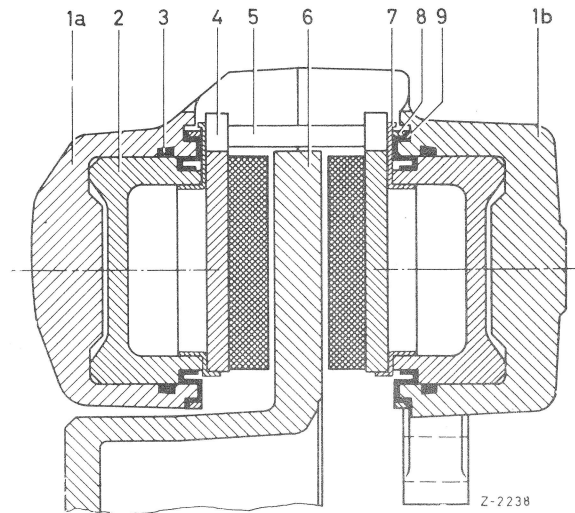

Fig. 8
6 Remove piston seal (3) from grooves of cylinder bores (Fig. 8).
7 Remove heat shield (7) from piston (Fig. 8).
9 Coat new piston seal (3) lightly with ATE-brake cylinder paste and insert into groove of cylinder bores (Fig. 8 and 9).